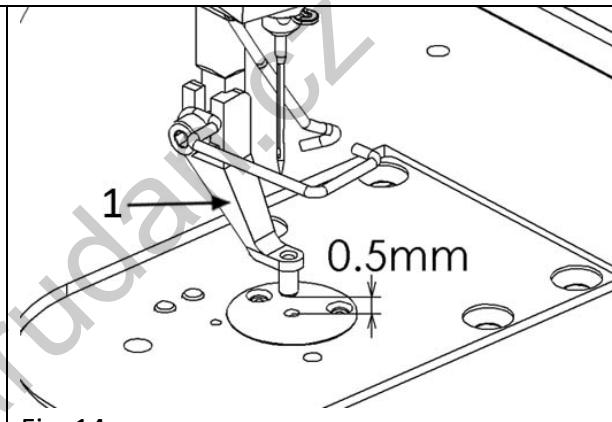

Fig. 14
- A. Loosen screw of the presser foot (1) in the lower end position and set the height of the foot so the foot tip is approximately 0.5mm above the surface of the sewn material, then tighten screw, fig.14